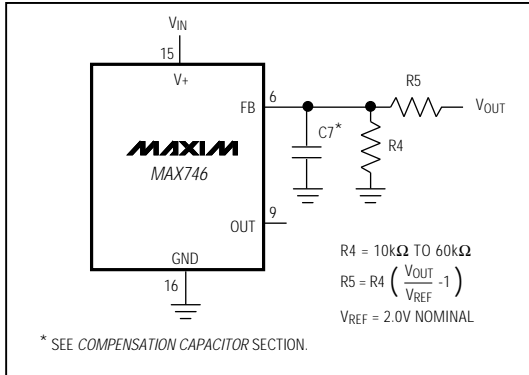

Figure 6. Adjustable Output Circuit
The MAX746's dual-mode output voltage can be set to 5V by grounding FB, or it can be adjusted from 2V to 14V using external resistors R4 and R5 configured as shown in Figure 6. Select feedback resistor R4 in the 10kΩ to 60kΩ range. R5 is given by:
**For adjustable-output operation, FB becomes the compensation input pin, and CC and OUT are left unconnected. Connect C7 between FB and GND in parallel with R4 (Figure 6). C7 is determined by:**